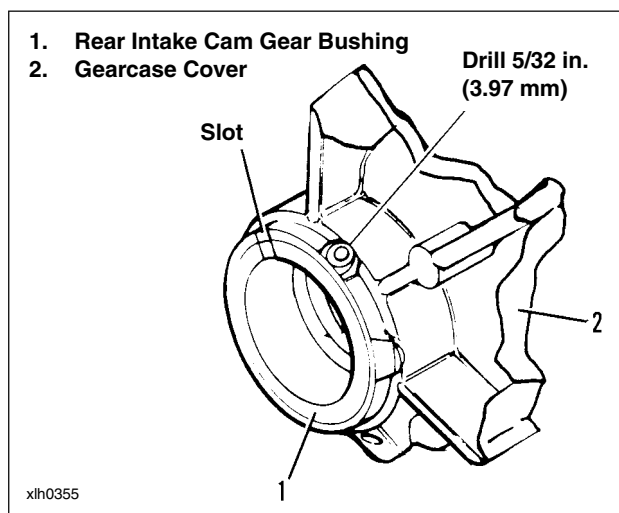

Figure 3-66. Rear Intake Cam Gear Bushing Installed in Gearcase Cover
2. See Figure 3-66. Position bushing (1) over bore of gearcase cover (2) with chamfered edge downward and slot upward. Align slot in bushing with slot in gearcase cover boss. Press bushing into cover bore until bushing is flush with cover boss.
2. Although the original pinion shaft bushing is not “pinned,” the replacement bushing must be secured, from possible rotation within the cover bore, by installation of a dowel pin. See Figure 3-66. Drill a No. 31 hole, 0.281 in. (7.137 mm) deep, at top side of boss (side toward top of gearcase cover), centering the drill bit on the cover bore circle (hole is drilled half in bushing OD and half in cover bore ID).